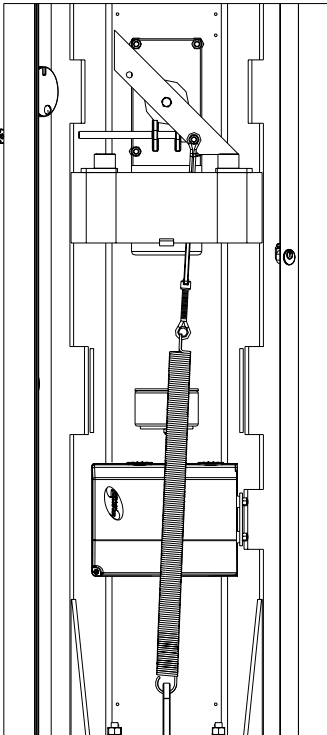

Fig.8
- To invert the opening direction of the arm, move the spring to the opposite position (Fig.8) and invert the connection of the electric motor to the control panel (Fig.9).